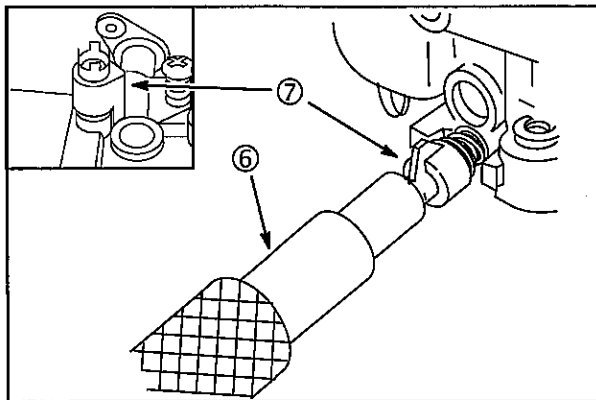

Fig. 13
- a. Position limiter cap (7) so that stop(s) on limiter cap are at mid point between stop(s) on carburetor body, Fig. 13.